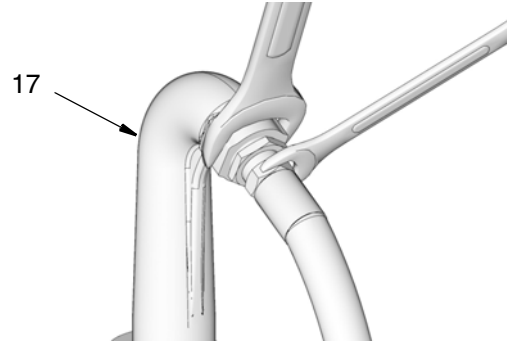

FIG. 78
- Attach end of the hose to the outlet (17) using two wrenches on the flats, working in opposite directions, to securely tighten the hose to the outlet fitting (FIG. 78).